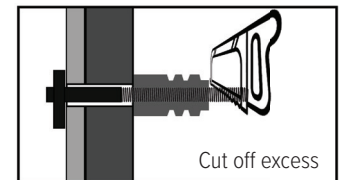

Figure 1.5
1.5 Cut the excess 3/8" stud off with a hacksaw as shown in Figure 1.5.